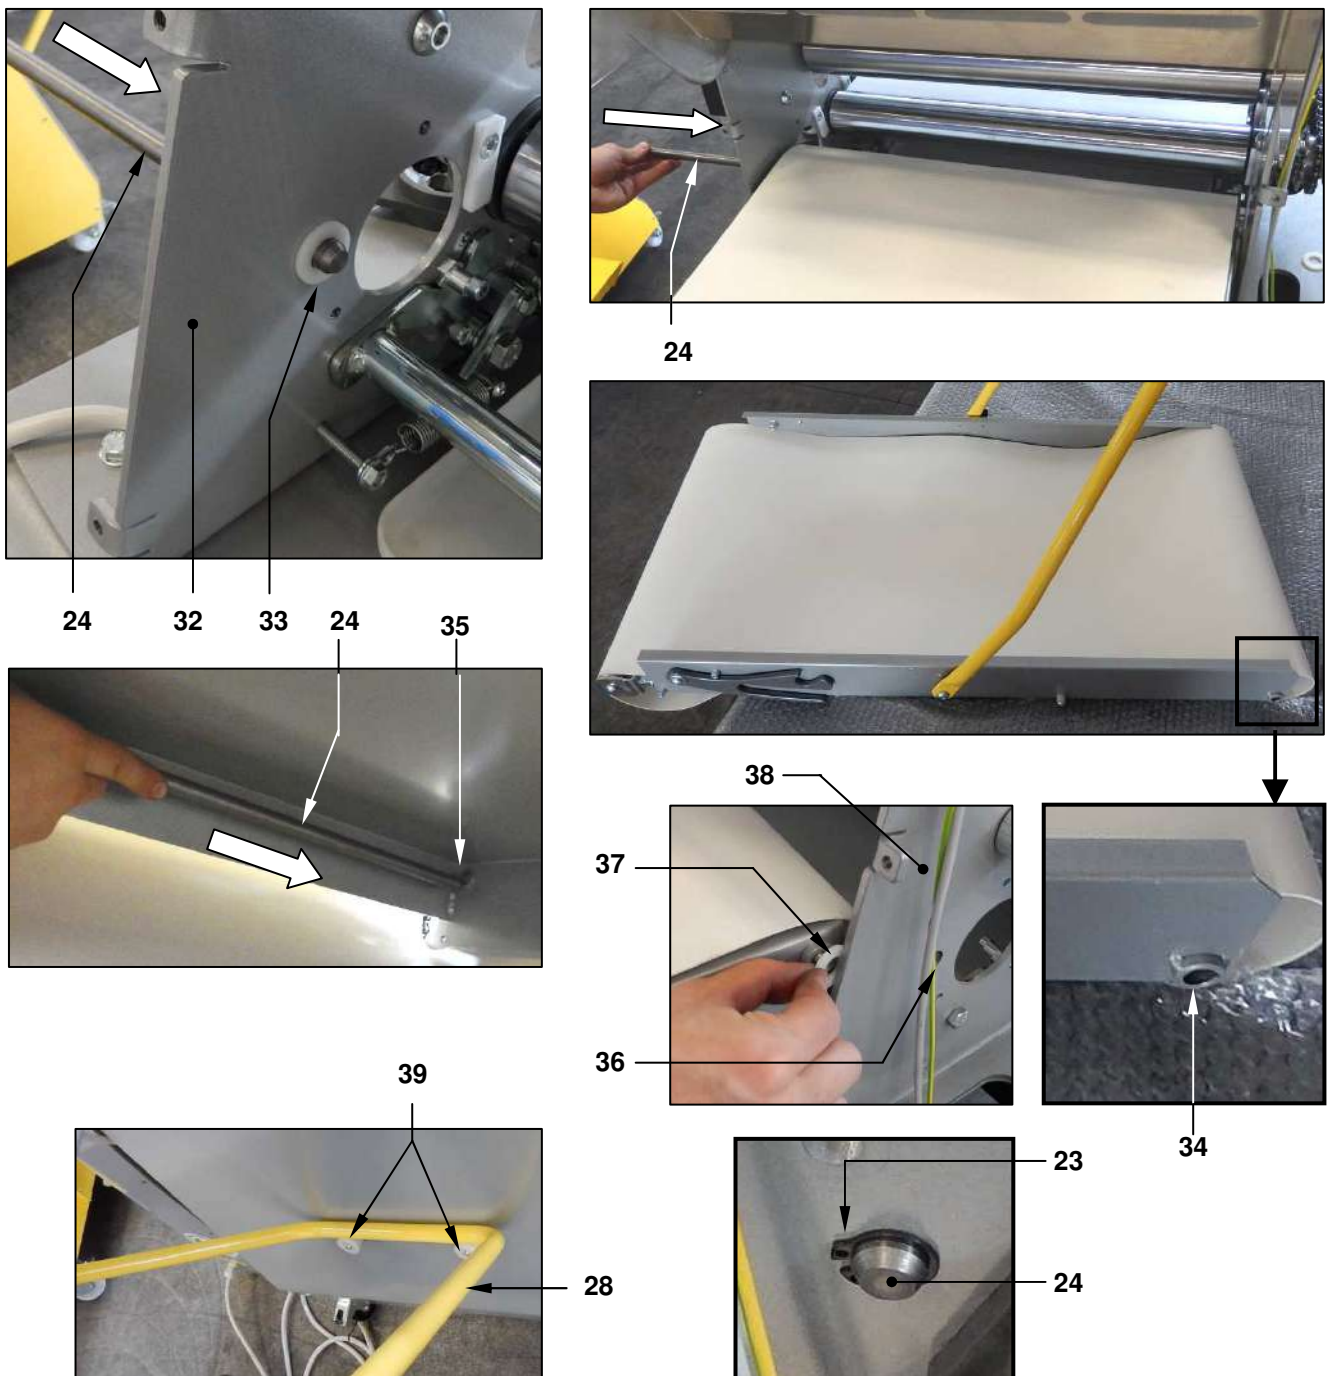

Figure 38 - SF450 and SF500: installing the table support rod between the uprights
16. While one person supports the bench in a central position, so that it doesn't fall as soon as it is released, the first operator (skilled), using needle nose snap ring pliers, removes the snap ring ref. 23 (photo O). He then pushes the rod ref. 24 inwards (photo P), removes it from the other side (photo Q) and puts it and the spacers ref. 33 and ref. 37 Figure 38 to one side.
18. remove the residue collection tray ref. 25 (see section 3.8)
19. unscrew the two side screws ref. 26 and relative nuts ref. 27 and remove the table support ref. 28 (photos R - S). Make a note of the position of the washers and spacers ref. 30 and 31 (photo T), because they have to be reinstalled in the same position.
20. rest the table on its side, as shown in photo U (hold it tightly to prevent it falling and causing injury or severe bruising). Remove the conveyor belt ref. 29 and replace it with a new one.
With reference to Figure 38: